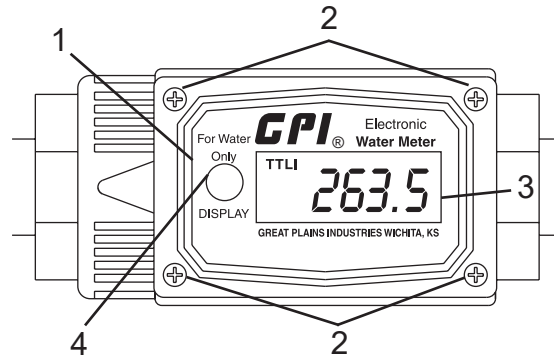

Figure 173
6. Activate the display by briefly pressing the DISPLAY button (Figure 173, Item 4).
7. Check the display (Figure 173, Item 3) to verify that it is operating normally. Re-seat the batteries if needed.
8. Install the meter faceplate (Figure 173, Item 1) on the meter body with four screws (Figure 173, Item 2).